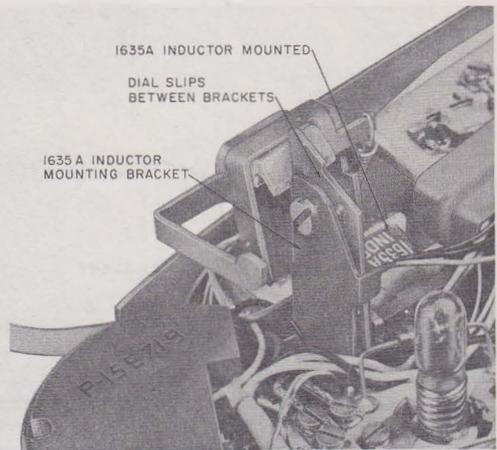

Fig. 7—1635A Inductor Mounted in 701B Telephone Set
- (1) Remove housing from telephone set.
- (2) Loosen dial and lay it aside.
- (3) Remove left screw from dial mounting bracket.
- (4) Install inductor as shown in Fig. 7.
- (5) Replace screw in dial mounting bracket.
- (6) Connect inductor between terminals B of network and 3 of terminal board.
- (7) Replace dial and housing.